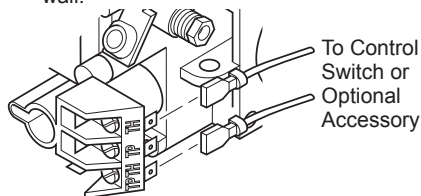

Figure 34 - Control Valve Terminals
1. Connect one terminal of 25 ft. wire for the wall switch to the TPTH terminal on the valve. Connect remaining wire terminal to the TH terminal on the valve. Make sure that the wire terminals are in the positions on the unit as pictured in Figure 34. If wires are not connected as shown, the switch will not work.